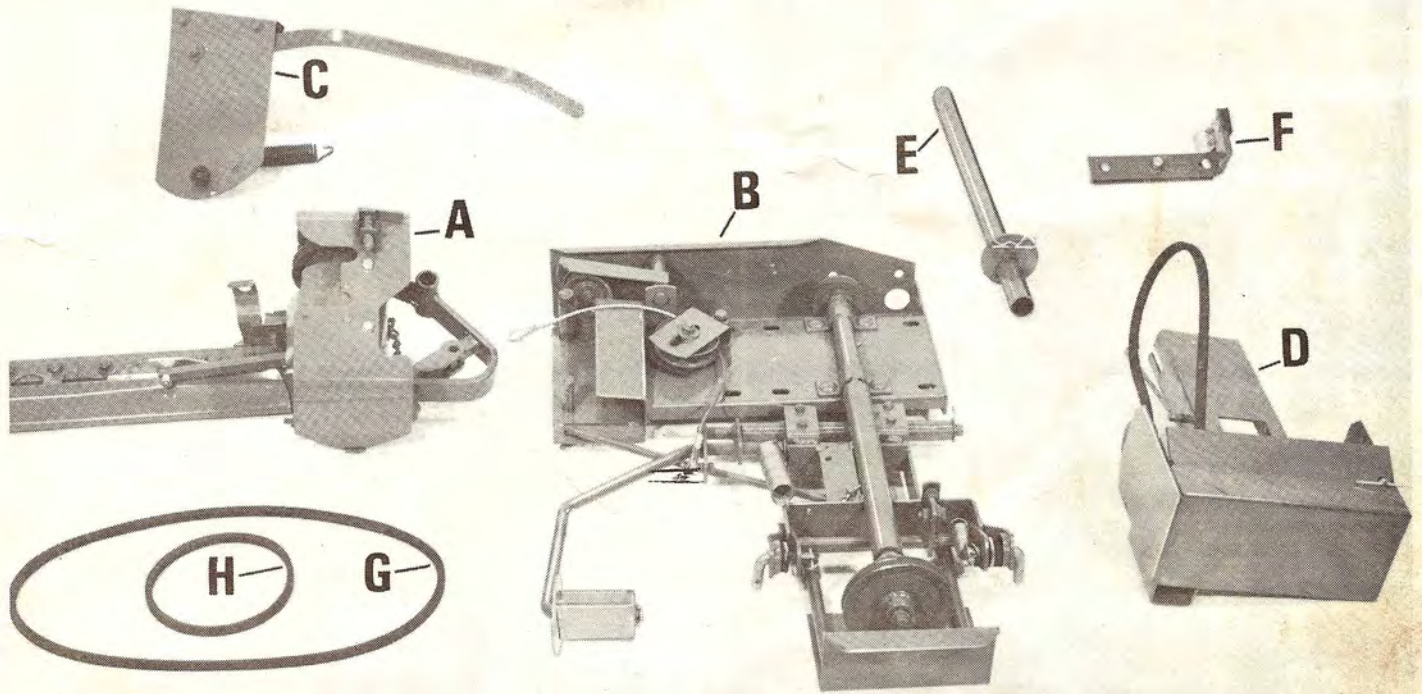
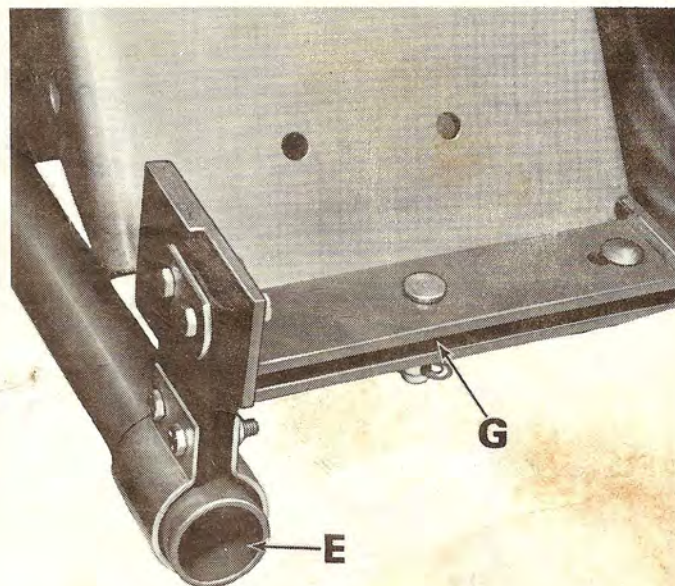

Fig. 1
Fig. 7
The sickle bar mower consists of the following: (Fig. 1)
Slide gearbox mounting frame (A) into tractor mounting channel until pins (B) reach rear of slots (C). Be sure that clutch adjusting rod (D) is to left of center bar (E). Install small V-belt (H, Fig. 1) onto gearbox pulley.
Slide clamp shock absorber Fig. 7 (E, Fig. 1) onto pivot pipe (E). Remove clevis pin from drawbar hitch (G). Raise hitch and slide tractor drawbar plate between straps of drawbar hitch as shown in Fig. 7. Align holes in plate and hitch and insert pin. Secure with hair cotter pin.